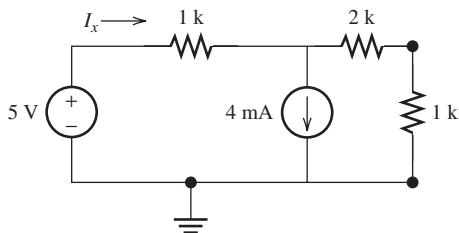

FIGURE P3.64 Circuit for Problem 3.64.
- 3.64 (A)** Find I_x in Figure P3.64 using the principle of superposition.
- 3.65 (A)** Use the principle of superposition to find the power dissipated in the 2-kΩ resistor in Figure P3.64.